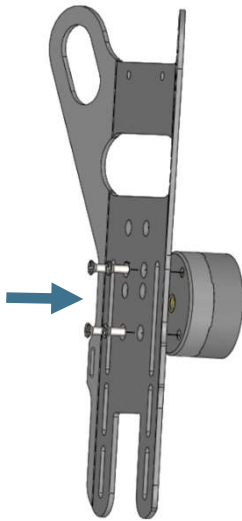

Figure 1
1. Mount the Rotational Assist Bracket to the Landscape to Portrait Mount's AMPS pattern with the brass inserts using the #10-32 X 0.375" flat head Phillips screws from the hardware bag (7120-1284). (Figure 1)